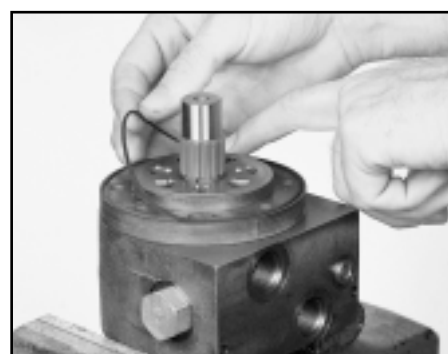

Figure A06
8. Place the square cut seal (3) in the commutator plate (7) seal gland. SEE FIGURE A06.